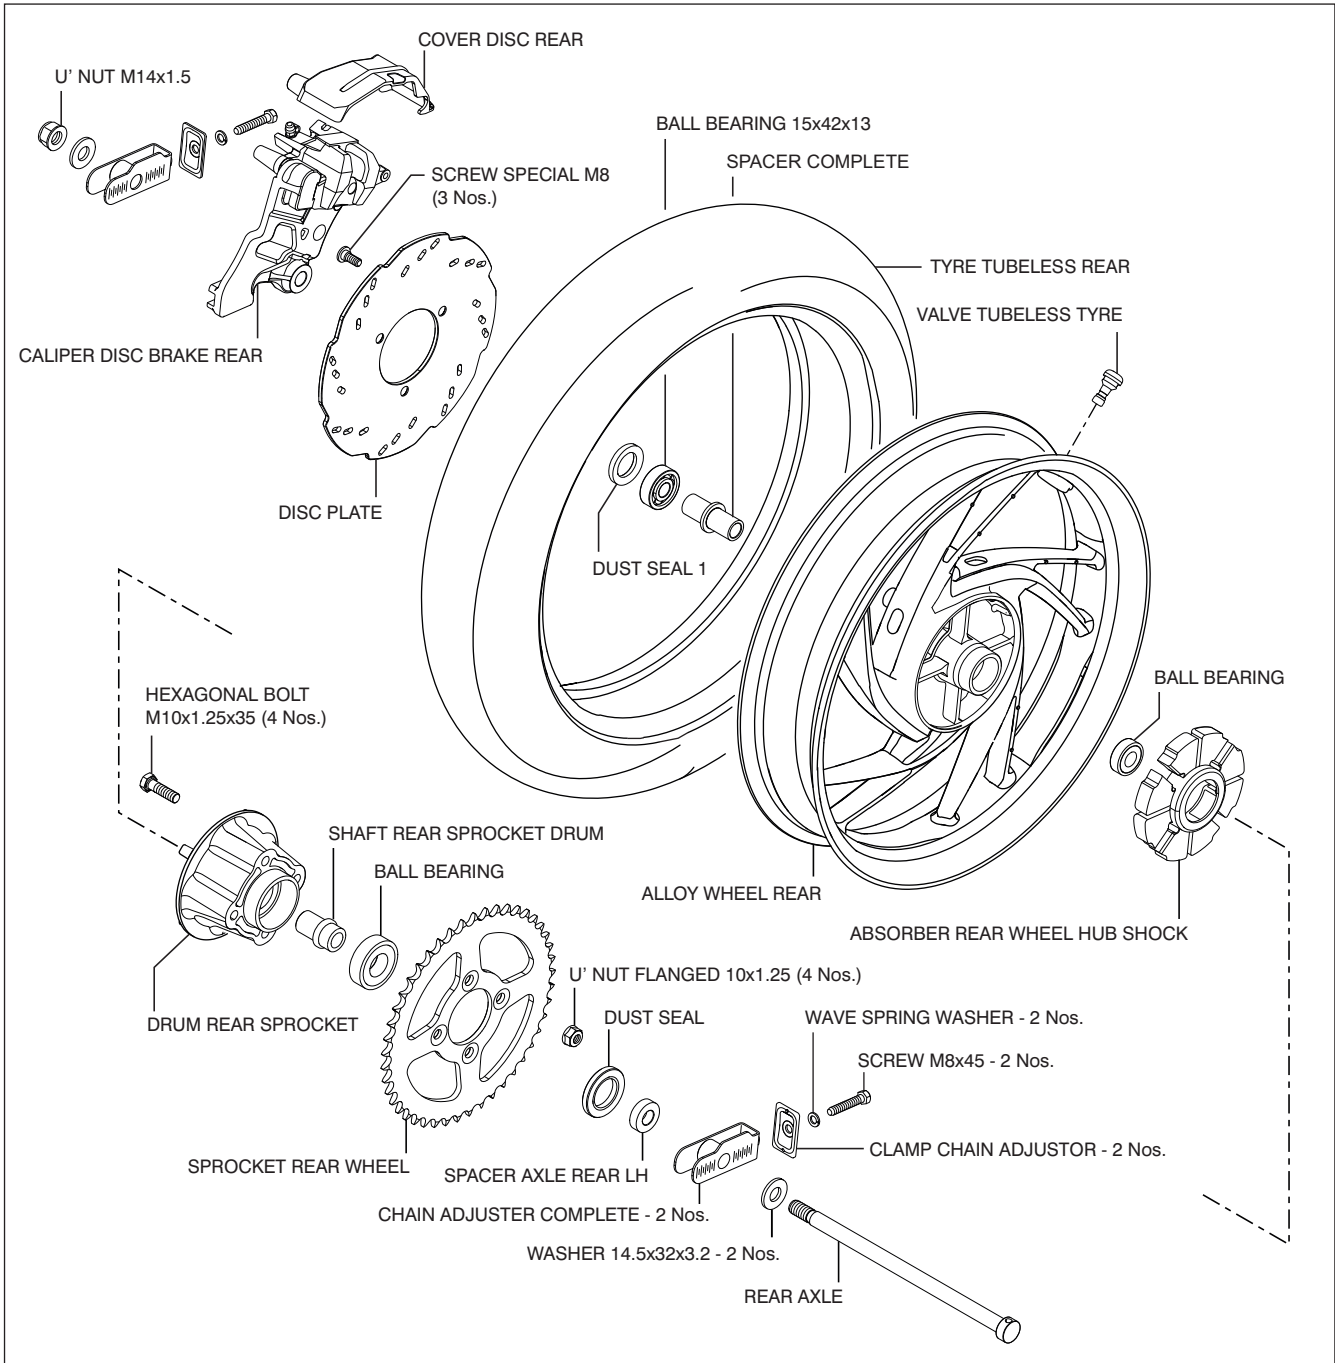

Fig. 6.95
- Reassemble and remount the wheel assembly rear in the reverse order of disassembly. Refer wheel assembly exploded view (Fig. 6.95) for assembly details.